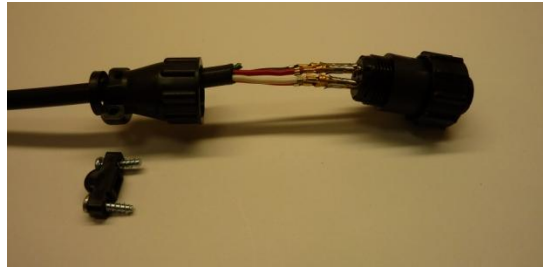

Figure 27: Pins inserted into DC power connector
Step 6: Using your fingers, insert the crimped pins into the corresponding holes of the DC power connector plug (Figure 27). Be sure to match the pin-out as specified earlier.